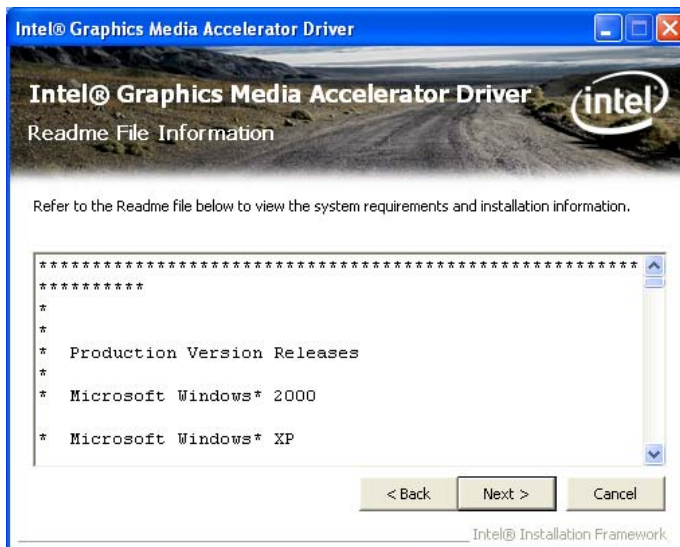

Figure 6-12: VGA Driver Read Me File
Step 11: The Read Me file in Figure 6-12 appears.